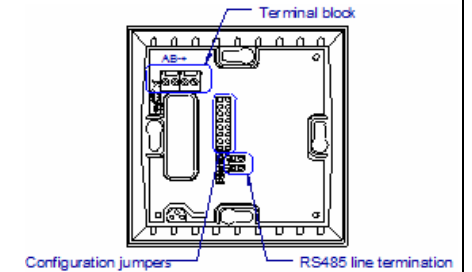

Figure 4
6. Set the communication parameters (Parity, Address, Communications rate, RS485 Line Termination) of EWC via configuration jumpers (Figures 4 and 5).